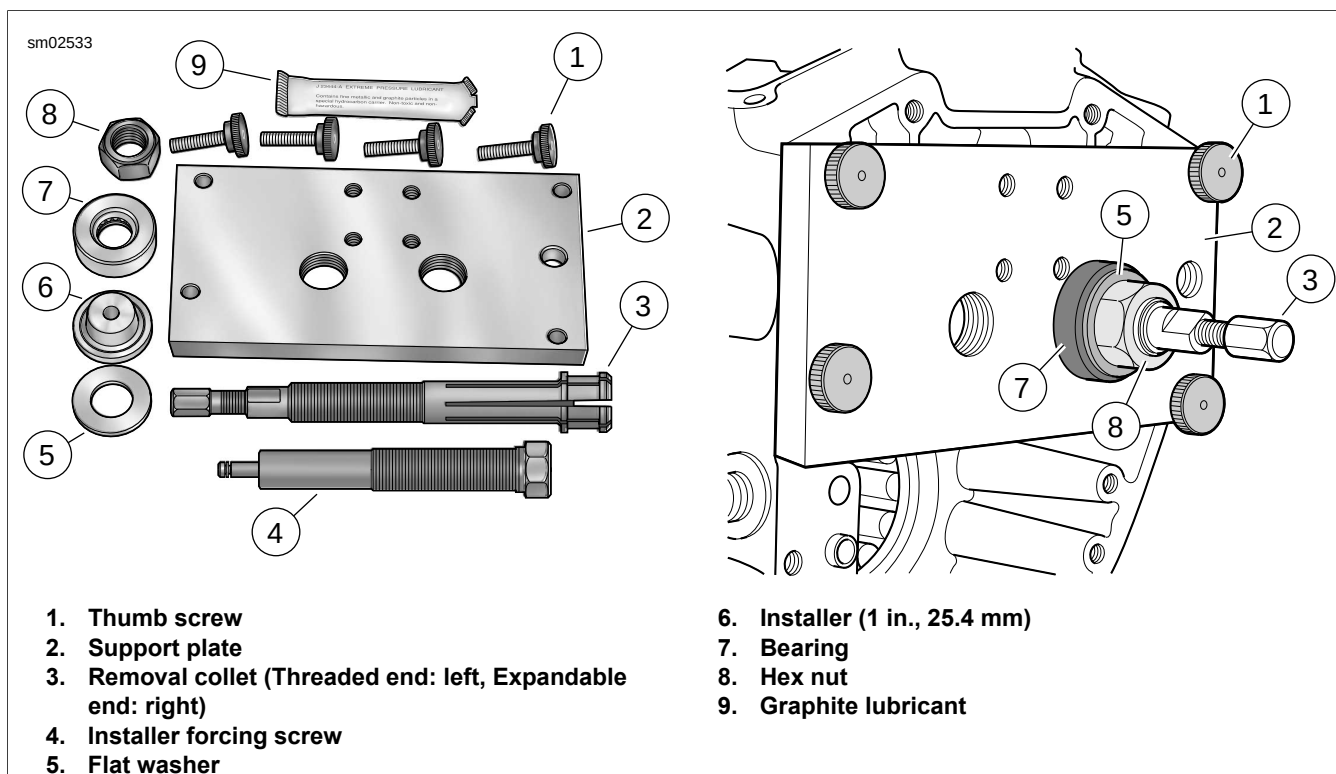
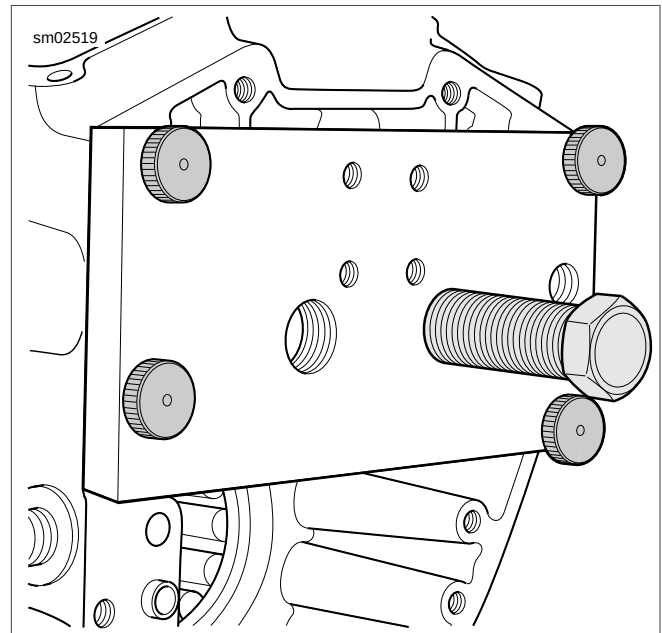

Figure 3-103. Camshaft Needle Bearing Remover/Installer
Figure 3-106. Installer Forcing Screw Installation
2. See Figure 3-103. Remove four thumb screws (1) from threaded holes in support plate (2), if installed.
3. Sparingly apply clean engine oil (9) to threads of collet (3) to prolong service life and verify smooth operation.
7. Center expandable end of collet in bearing bore and slide bearing (7) and flat washer (5) on threaded end. Start hex nut (8) on threaded end.
4. See Figure 3-103. Sparingly apply clean engine oil to threads of installer forcing screw (4) to prolong service life and verify smooth operation.
5. Thread installer forcing screw into stamped side of support plate (2) until threads begin to emerge from opposite side.
6. Place installer (6) at end of installer forcing screw.
8. See Figure 3-106. Aligning two large holes in support plate with needle bearing bores, hang right side of plate on ring dowel in crankcase flange.